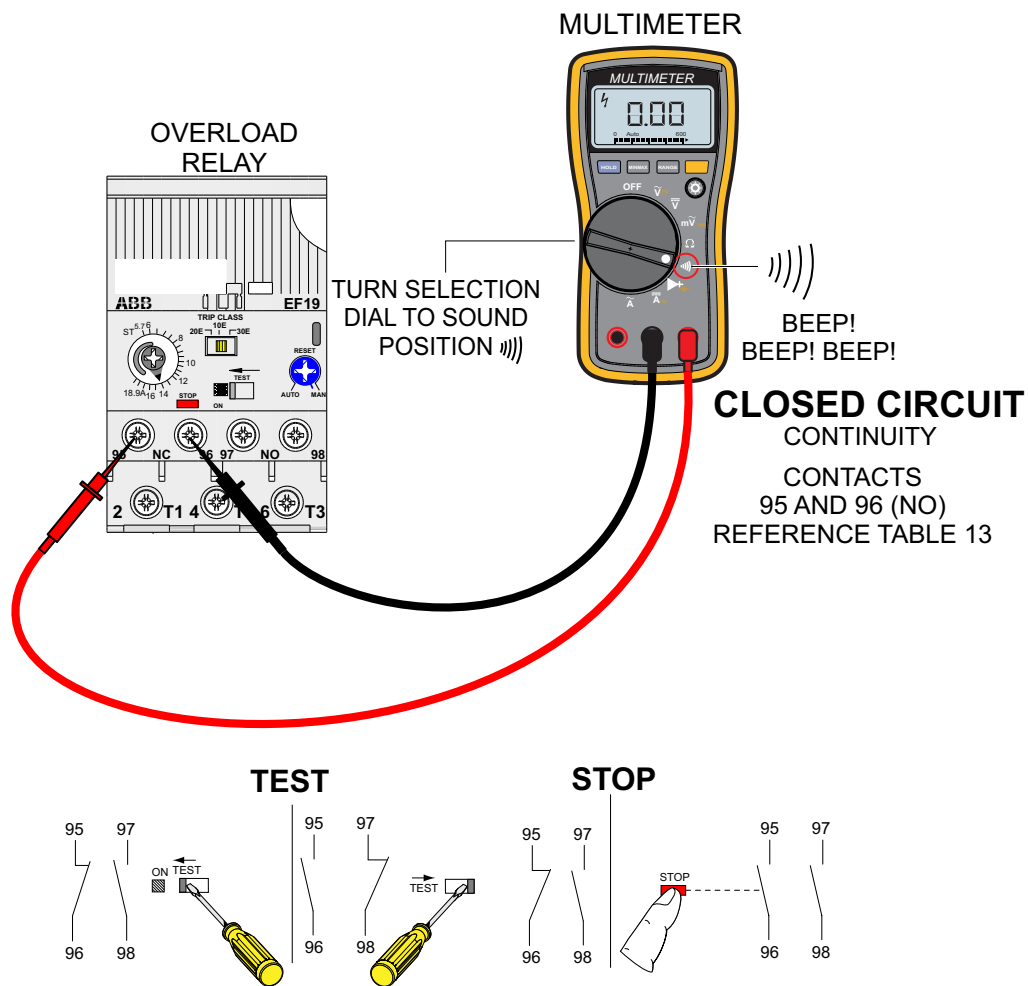

Figure 27. Overload Relay Test
1. Place the selection dial (Figure 27) on the multimeter to sound icon.
2. Next, place the multimeter test leads (Figure 27) across terminals 95 and 96 on the relay and verify that there is continuity (beep! beep!). This implies a **CLOSED** circuit, continuity.
3. Continue testing the overload relay as reference in Table 14 and Figure 27.